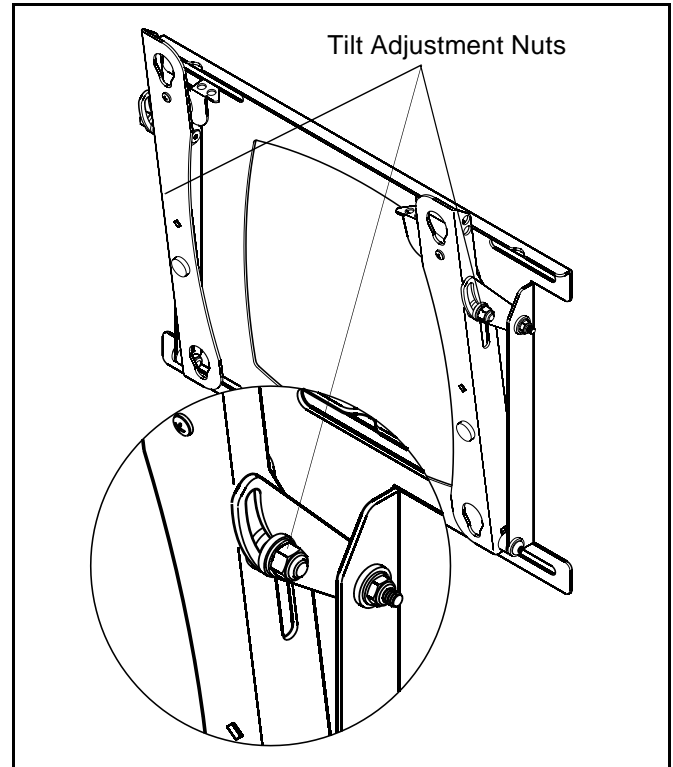

Figure 5: Tilt Adjustment
1. Using 1/2" socket wrench, loosen or tighten the tilt adjustment nuts until desired tension is achieved.(See Figure 5).